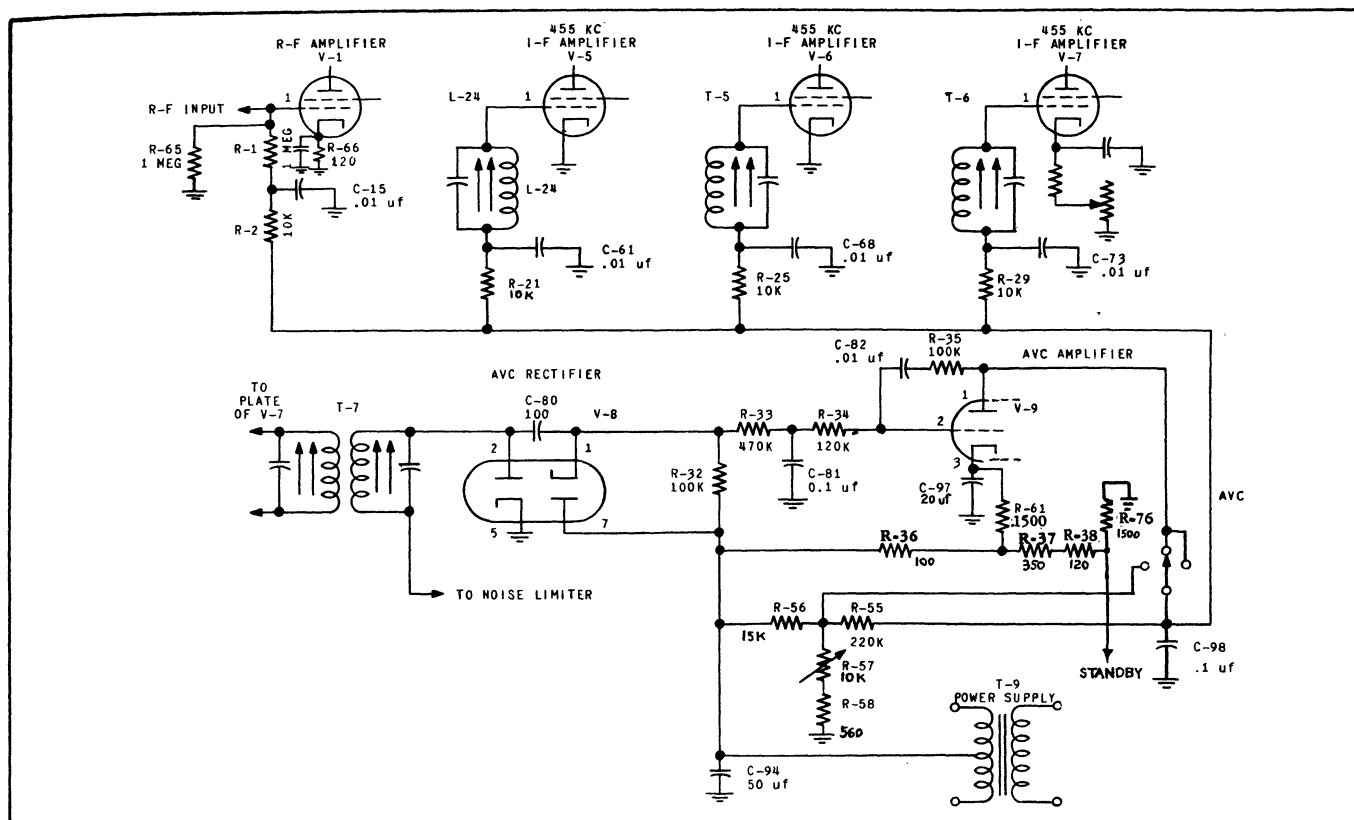

Figure 4-4. Detector and AVC Circuits
a. DETECTOR AND AVC (see figure 4-4). One section of V-8 is the detector. The other section is the AVC rectifier, which is coupled to the secondary of T-7 through C-80. The AVC control voltage is developed across R-32 and applied to the grid of the AVC amplifier, one section of V-9, through an audio filter network consisting of R-33 and C-81. The network consisting of R-35, C-82, and R-34 introduces degeneration to prevent the AVC amplifier from responding to low audio frequencies.